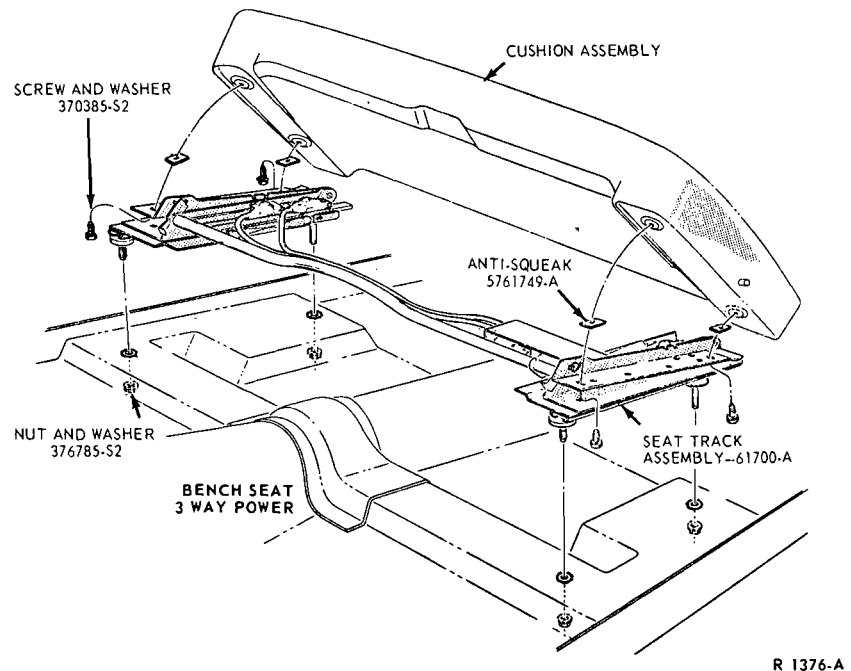

FIG. 13—Power Seat Track—Bench—Mercury Intermediate
2. Remove the four seat track retaining nuts. Disconnect the seat wiring loom at the quick disconnect and remove the seat assembly from the vehicle. (Fig. 13).